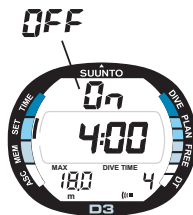

Fig. 4.14. Dive Time Alarm. Center window displays less than 5 minutes dive time.
2. Wait two seconds until the Dive Alarm Setting Mode activates automatically. The alarm status [On/OFF] starts to blink on the display (Fig. 4.14.).